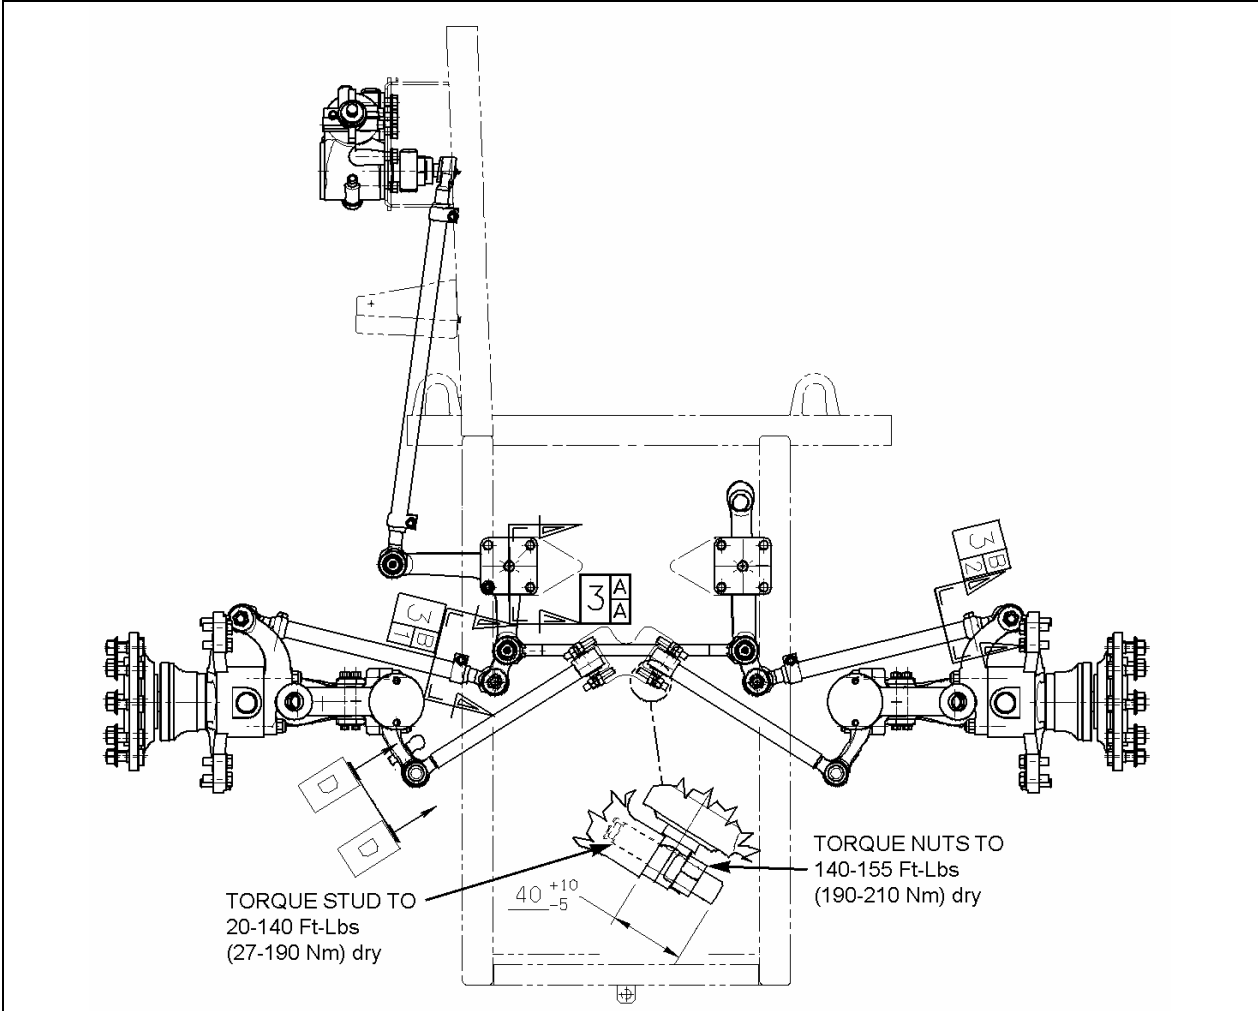

FIGURE 12: LOCATION OF CLAMPS
2. For a full left and right turn, check clamps' position and for interfering parts. Refer to figures 12 to 16 for location and positioning of clamps. If readjustment is required, make the proper adjustment.